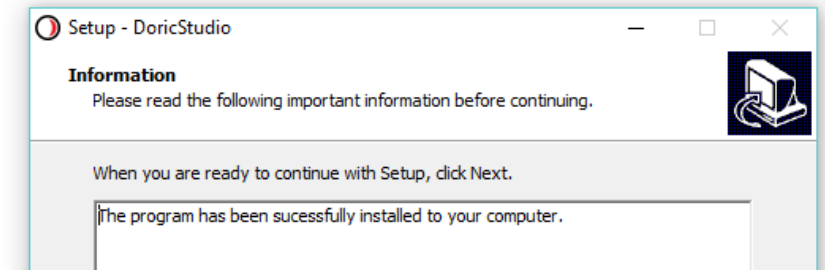

Figure 3.3: Successful installation of the Doric Neuroscience Studio
8. When you are ready, **click Install** to begin the process. This should take a few moments. When the installation is done, the message in Fig. 3.3 will show up.